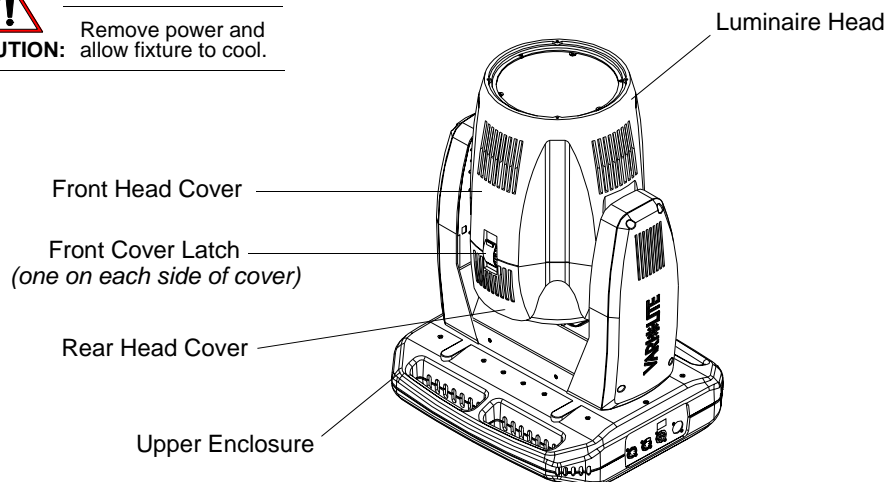

Figure 2-28: VLX Wash Luminaire
Step 2. Carefully set luminaire on upper enclosure, rotate head as shown in Figure 2-28, and engage tilt lock.